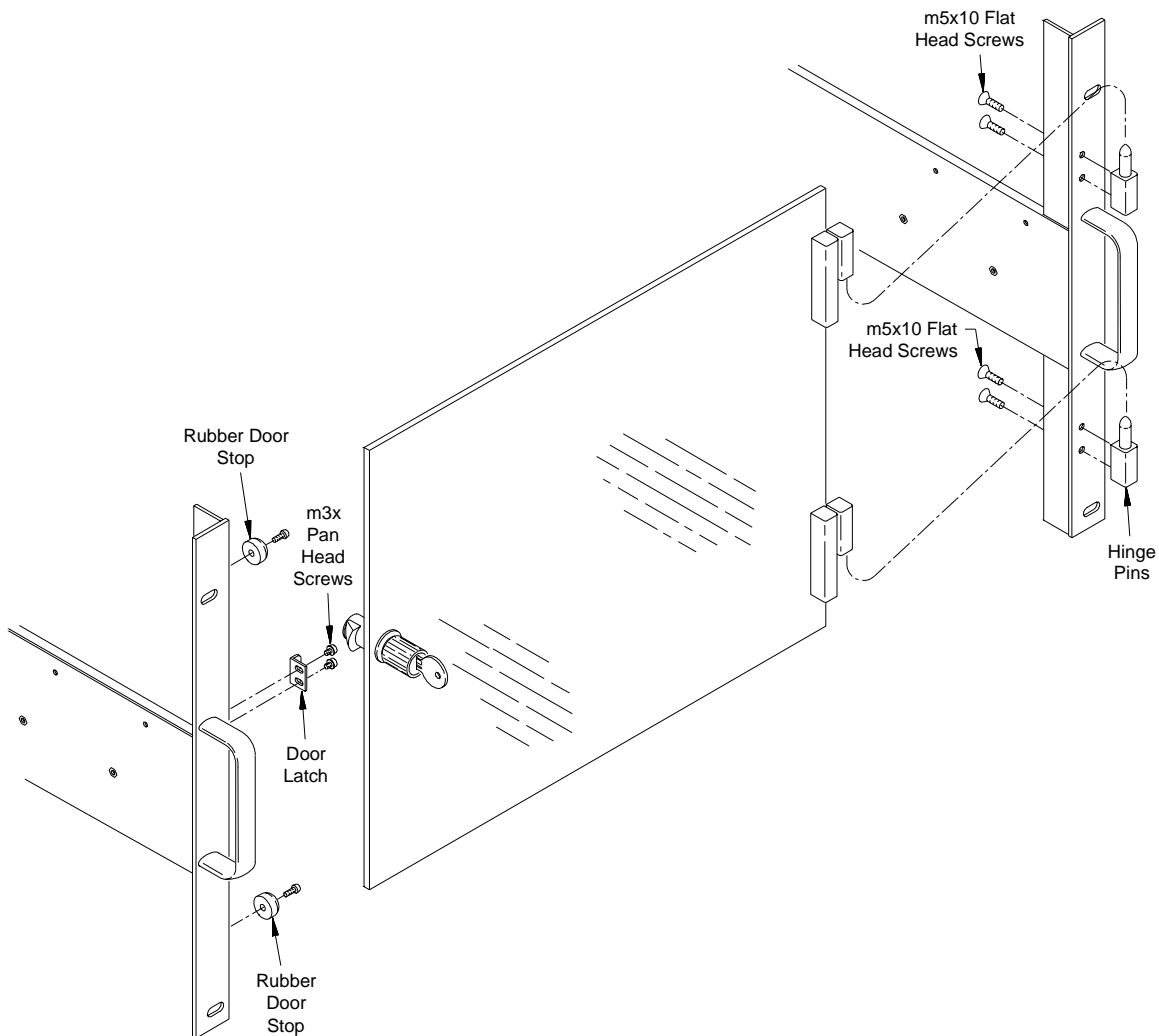

Figure 2-12. Installing the Acrylic Door Hinges, Door Stops, and Latch Keeper.
3. Attach the hinge pins to the right rack mount adapter using four m5x10 flat head screws (Figure 2-12). Attach the rubber door stops and door latch to the left adapter using four m3x8 pan head screws as also shown in Figure 2-12.